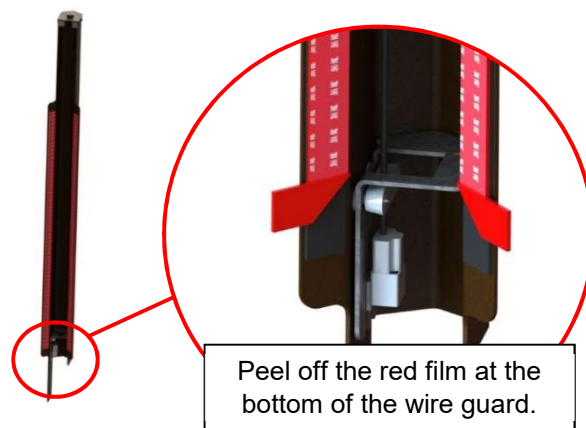

Figure 75
- 11) Peel a small corner off the red plastic film on the double-sided tape, fold this tape toward the outside. (Do this step for both sides) (Figure 75)